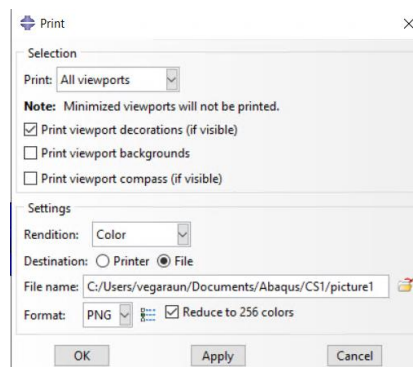

Figure 2-34 –The Print dialog box
6. Export a picture of the deformation plot from **File** → **Print** in the main menu bar. Change the **Destination** to **File** in the **Print** dialog box and set your destination. Use PNG as format. See Figure 2-34.